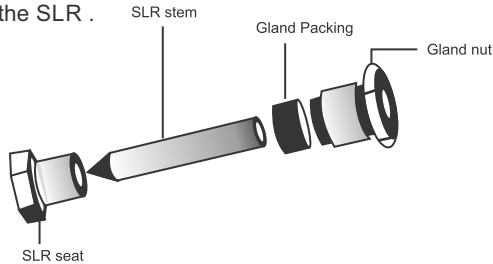

Figure 9: SLR assembly
7.5 Procedure to fit the steam lock release (SLR) assembly: (Refer to Figure 9)
2. Remove the SLR gasket. (not shown in the figure 9.)